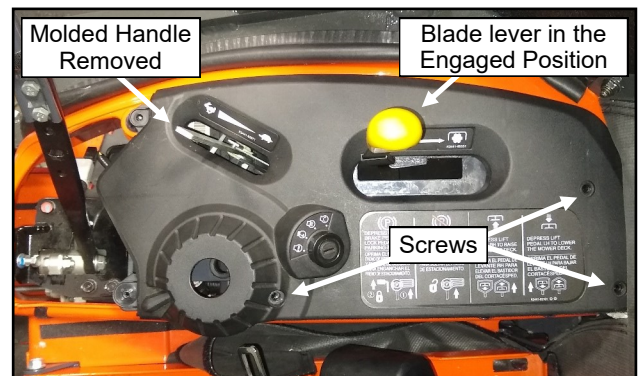

Fig. 1.15 (Right Side Cover)
- 1.15 See fig. 1.15. Remove and set aside the three screws securing the plastic cover to the right side fender. Pull the molded handle from the throttle lever and engage the blade lever.